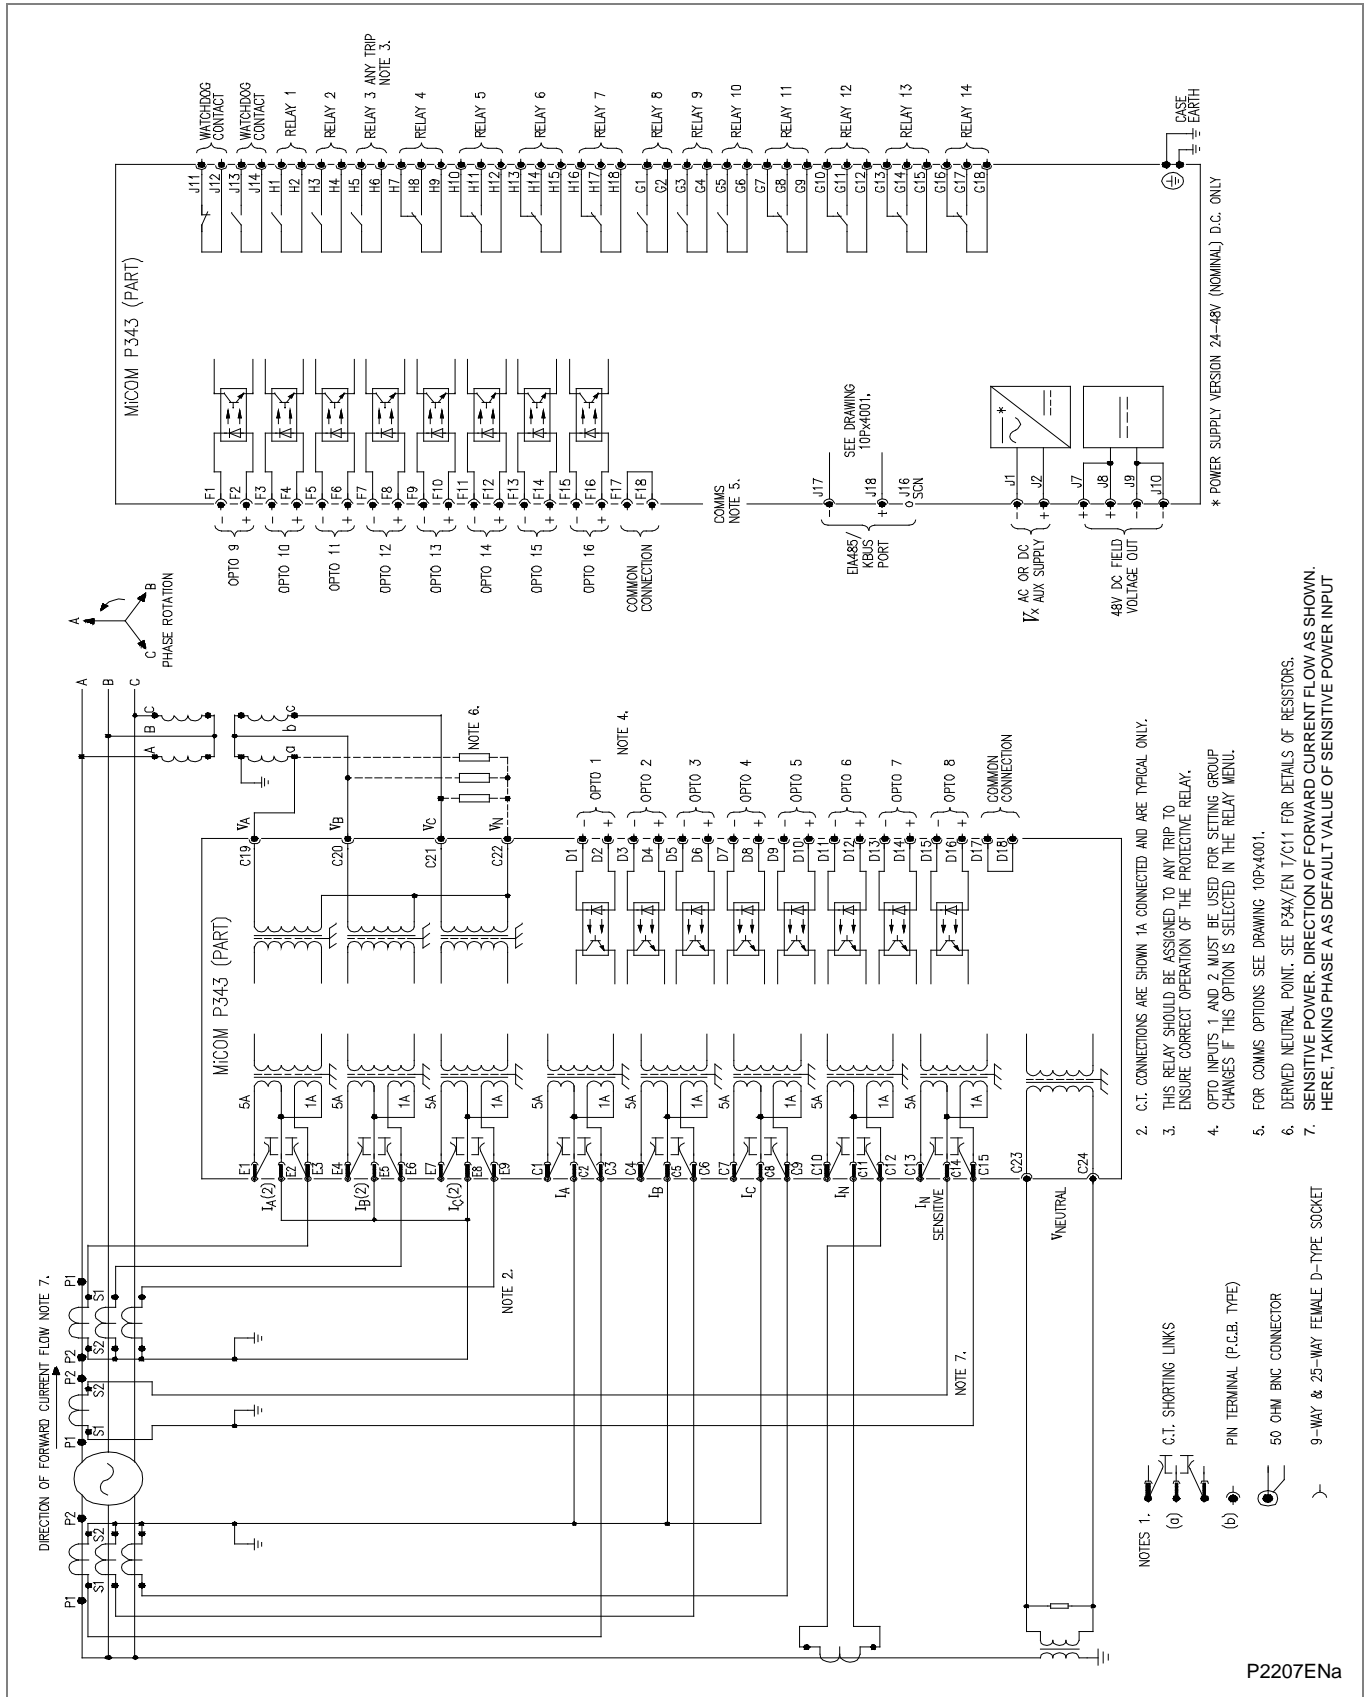

Figure 25 - P343 Generator protection relay with biased differential using VEE connected VT's and sensitive power (16 I/P & 14 O/P)
- Figure 25 - P343 Generator protection relay with biased differential using VEE connected VT's and sensitive power (16 I/P & 14 O/P)